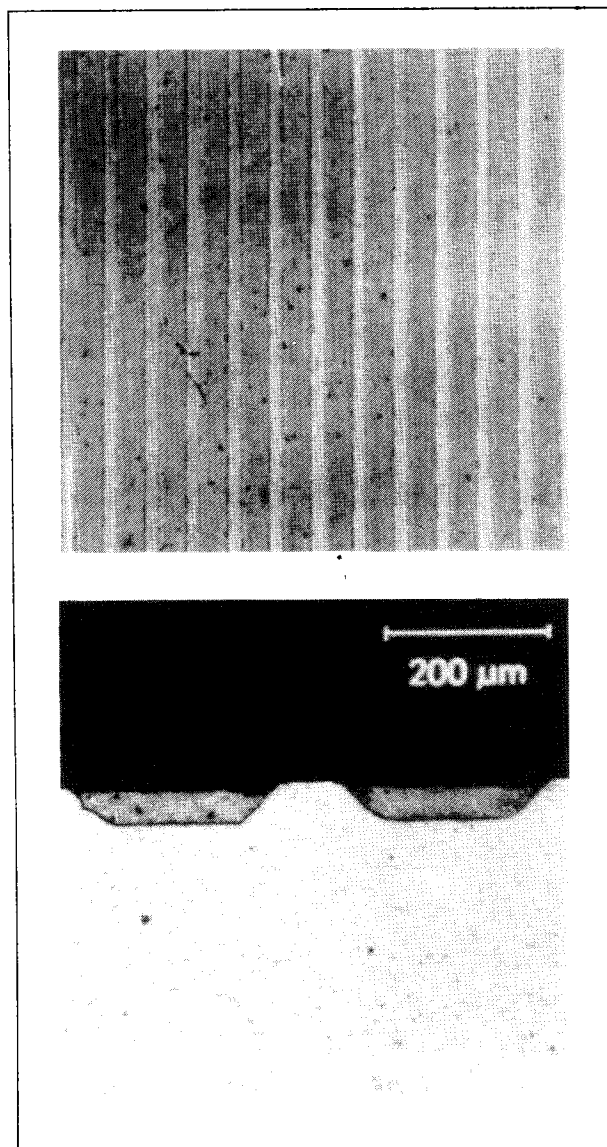

Fig. 3.
**Condition:** The overlay is equally worn, approx. 0.005 mm in the slots. The light-alloy strips show no wear, see fig. 3.